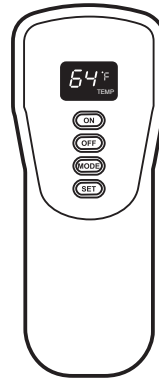

Figure 25 - Remote Control
4. Press the ON button on the remote control to light the burner (see Figure 25). You will hear a series of beeps. This will also "learn", or program, the remote and the receiver.
The factory setting for temperature is °F. To change this setting to °C, press the ON key and the OFF key on the remote control at the same time (see Figure 25, page 19). This will change from °F to °C. Follow this same procedure to change from °C back to °F.